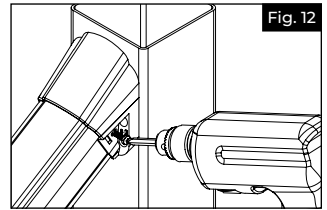

Fig. 12
Slide assembled rail section straight between both posts, and over each angled bracket base (Fig. 12).
- b. Using the pre molded hole in the bracket as a guide, predrill one side (outside of the stair rail installation) of the top rail bracket with $\frac{5}{32}$ " drill bit (Fig. 12). Drive #10 x 1" pan head square drive screw through bracket and rail. Do NOT overtighten.